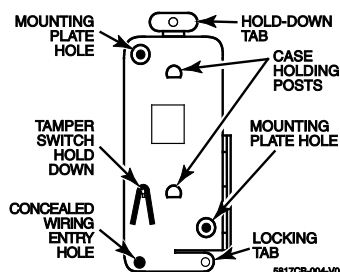
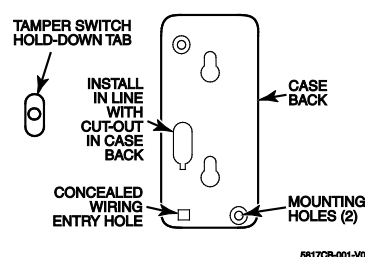
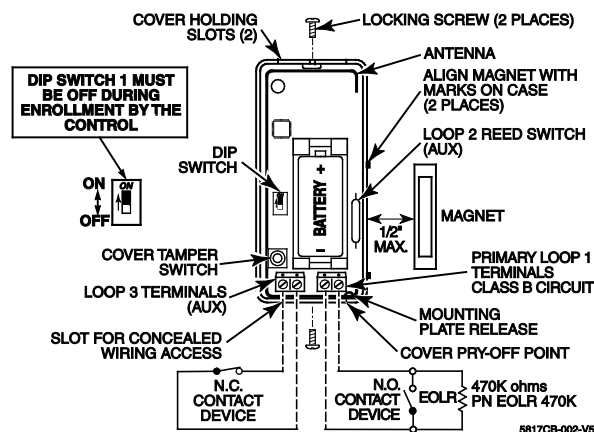

Figure 1. Mounting Plate
Figure 2. Case Back
Figure 3. 5817CBXT Transmitter, Top Cover Removed
- Disengage the mounting plate from the case back by inserting the blade of a small screwdriver into the mounting plate release hole (see Figure 3) and pushing the locking tab out (see Figure 1). Slide the mounting plate downward along the case back.
- Make note of the location of the tamper switch hold-down as shown in Fig. 1 for the proper placing of the hold-down tab in Fig. 2.
- In the area that was marked, install the hold-down tab with a 5/8" flat head dry-wall screw. The tab must be aligned with the corresponding slot in the case back as shown in Figure 2. The tab as well as the case back must be anchored to a wall stud or other solid wood material.
- a. In order for the control panel to enroll the transmitter, DIP switch 1 **must** be set to OFF (see Figure 3).
Connect the loop wiring to the unit's terminals before installing the battery (see Figure 3).
2. Observe correct polarity and insert the battery provided into the battery holder (see Figure 3). Take care not to bend the antenna.